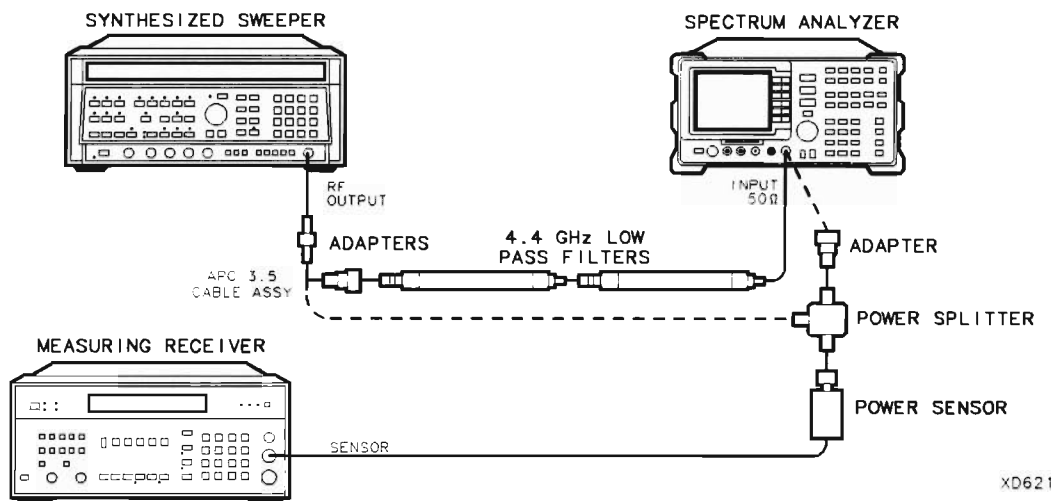

Figure 2-46. Second Harmonic Distortion Test Setup, >2.9 GHz
13. Connect the equipment as shown in Figure 2-46, with the output of the synthesized sweeper connected to the input of the power splitter, and the power splitter outputs connected to the spectrum analyzer and the power sensor.
24. Connect the equipment as shown in Figure 2-46 with the filters in place.